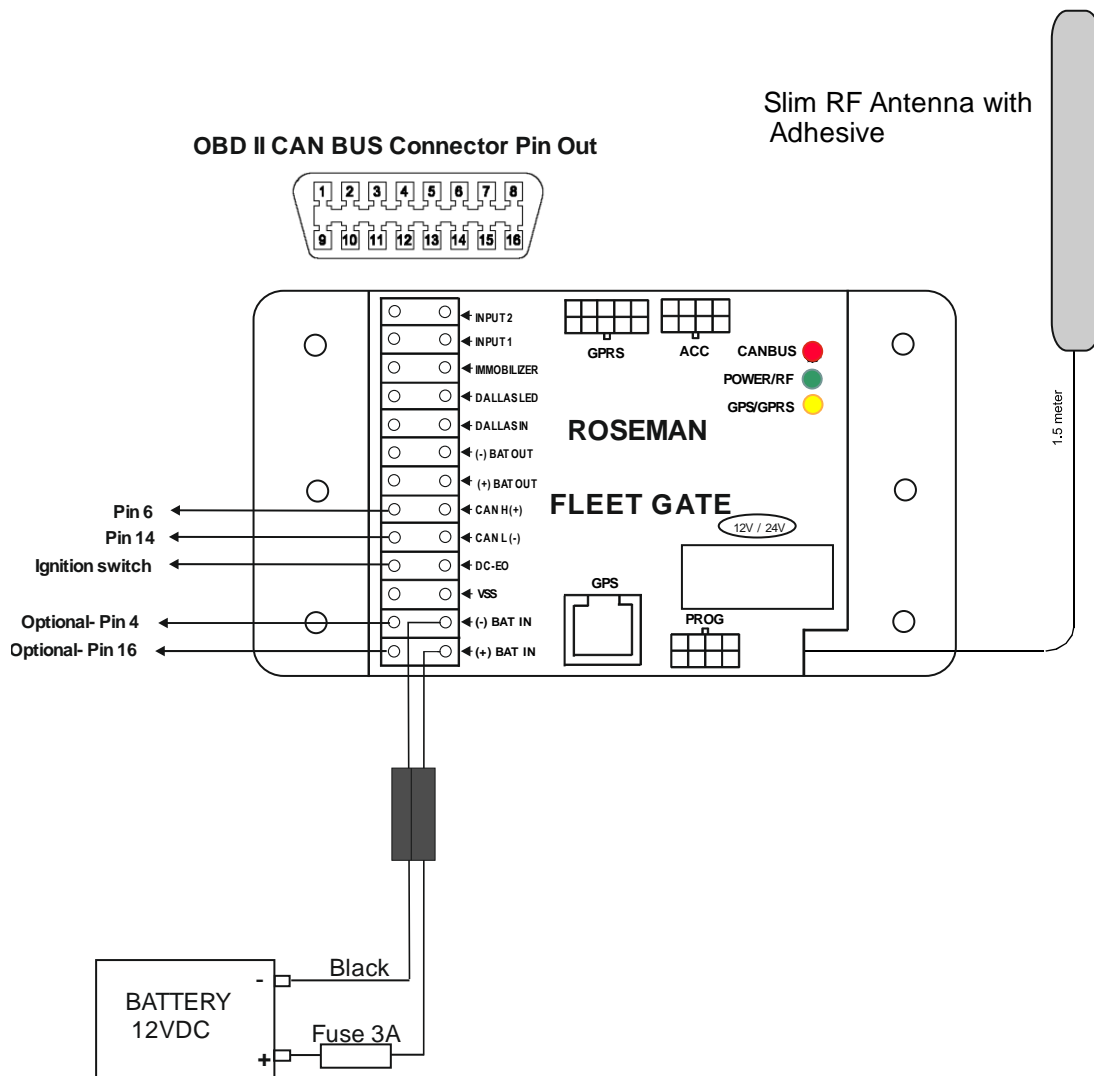
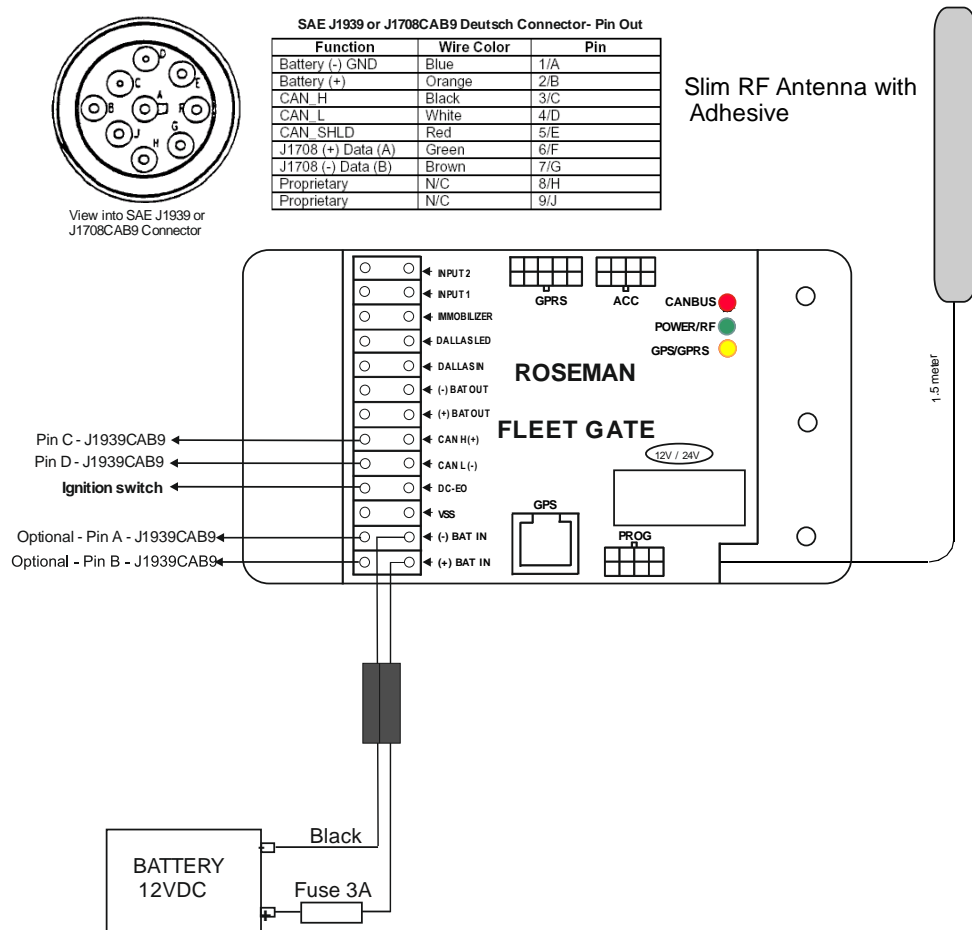
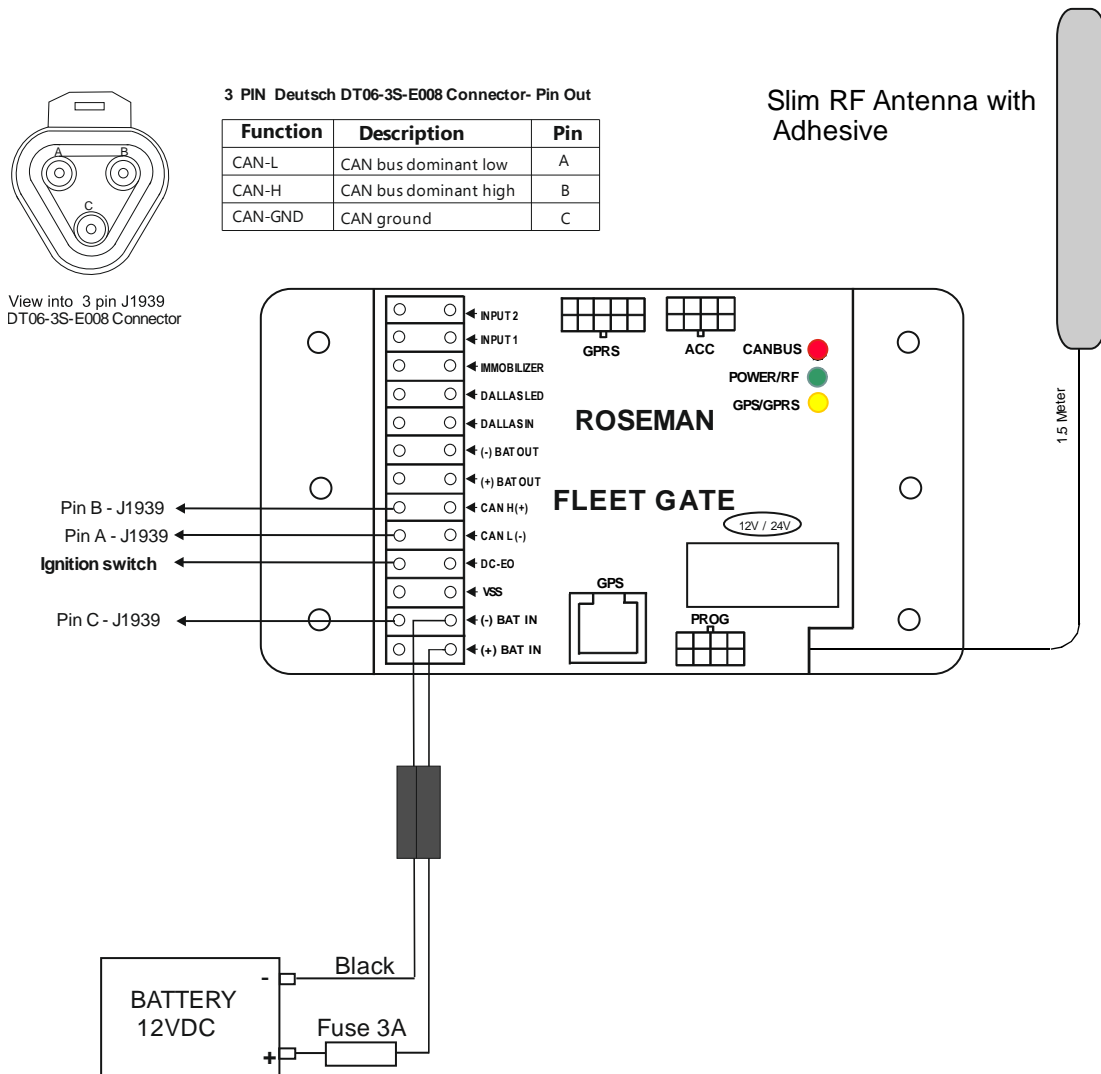

Figure 5: Wiring Diagram for FG3 with CAN Bus Interface for Light Duty Vehicles
Figure 6: Wiring Diagram for FG3 with CAN Bus Interface for Heavy Duty Vehicles
Figure 7: Wiring Diagram for FG3 with CAN Bus Interface (3-pin connector) for Heavy Duty Vehicles
1. Run a wire from the vehicle ignition switch (or start/stop button on some hybrid models) to the DC-EO terminal on the FG3 (refer to **Figure 5: Wiring Diagram for FG3 with CAN Bus Interface** for Light Duty Vehicles, **Figure 6: Wiring Diagram for FG3 with CAN Bus Interface for Heavy Duty Vehicles**, **Figure 7: Wiring Diagram for FG3 with CAN Bus Interface (3-pin connector) for Heavy Duty Vehicles**)